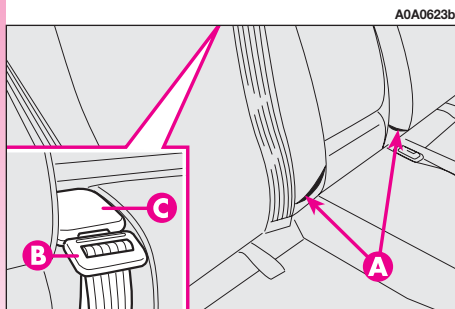

fig. 20
- check that seat buckles of the side belts are fitted in the respective pockets on the back rest (**A-fig. 20**) and the tab (**B**) of the centre abdominal belt is inserted in the support (**C**).